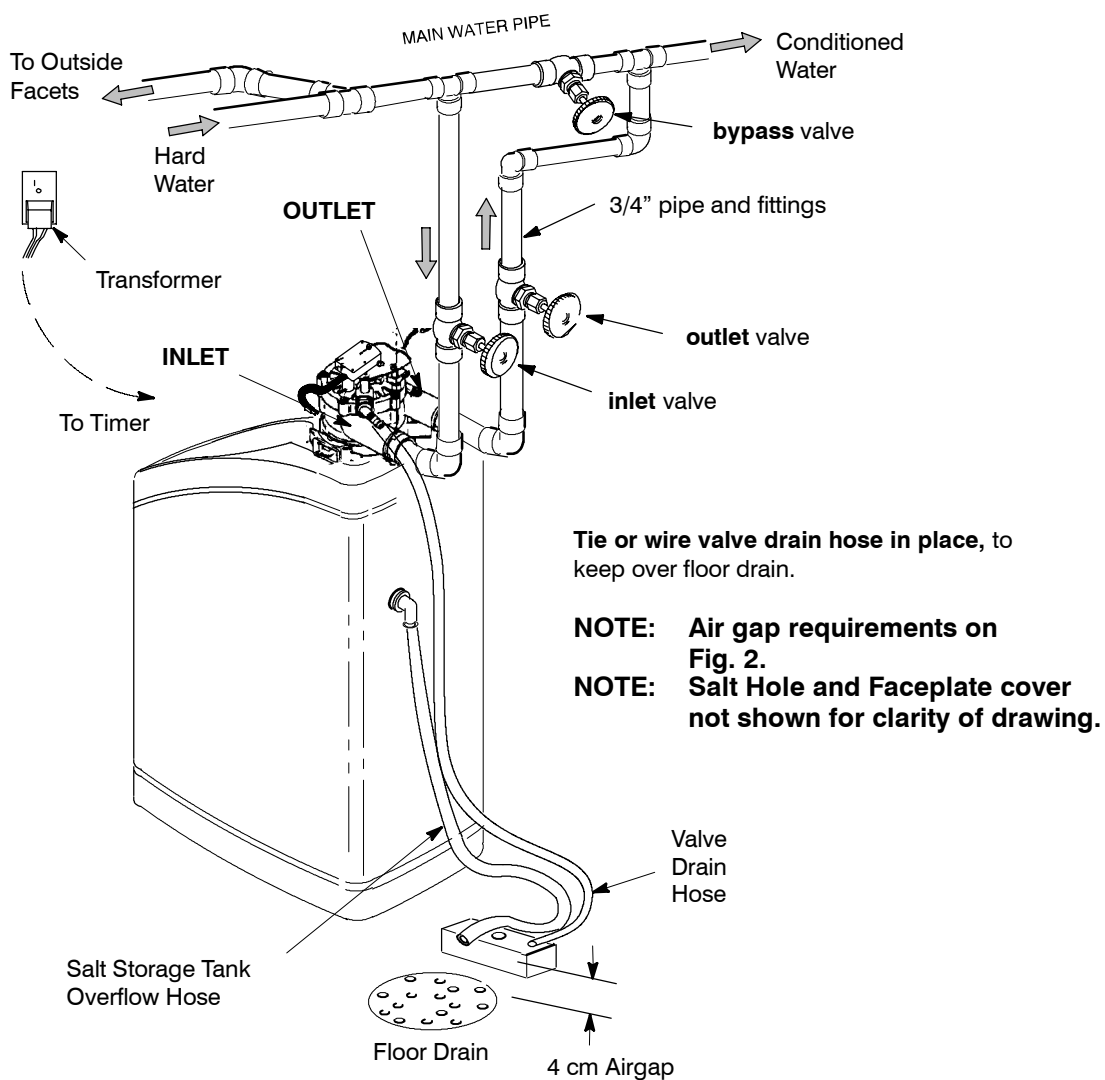

Figure 2
WARNING: The house cold water pipe (metal only) is often used as a ground for the house electrical system. The 3-valve bypass type of installation, shown in Figure. 2, will maintain ground continuity. If you use a plastic bypass valve at the unit, continuity is broken. To restore the ground, do the following.
2. Run the hose to the floor drain, and as typically shown in Figure 2, tie or wire the end to a brick or other heavy object. This will prevent "whipping" during regenerations. **Be sure to provide a 4 cm minimum air gap, to prevent possible sewer water backup.**
1. Connect a length of 3/8" I. D. hose to the salt storage tank overflow elbow and secure in place with a hose clamp (see Figure 2).